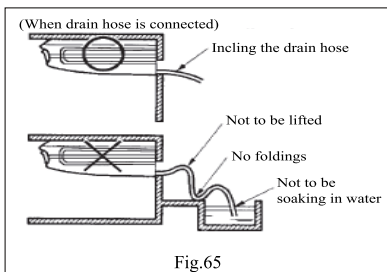

Fig.65
- Keep the drain pipe as short as possible and incline downwards at a gradient of at least 1/100 to prevent air pockets (See Fig.65)